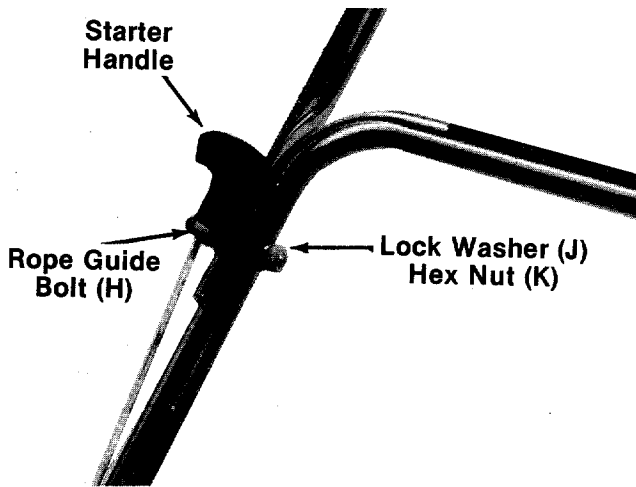

FIGURE 4.
5. Insert the rope guide bolt (H) through the right hand side of upper and lower handle.
7. Slip the starter rope into the rope guide bolt as shown in figure 4. Secure the rope guide bolt with lock washer (J) and hex nut (K). If more slack is needed in the starter rope, disconnect and ground the spark plug wire. Depress the blade control handle and pull additional rope out from the engine.